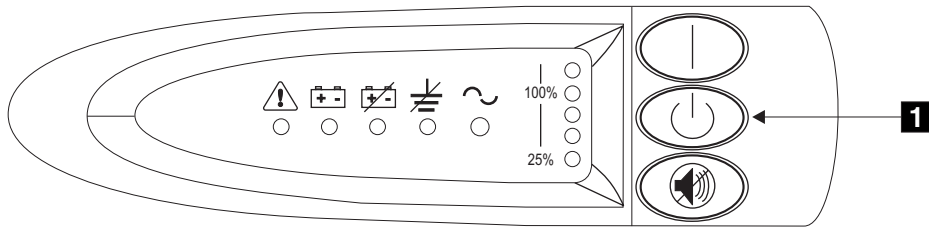

Figure 108. Uninterruptible power supply front panel assembly
1. At the front of the uninterruptible power supply, press and hold the off button **1** for approximately five seconds or until the long beep stops. See Figure 108 on page 168.
1. At the front of the uninterruptible power supply, press and hold the off button **1** for approximately five seconds, or until the long beep stops. See Figure 108 on page 168.